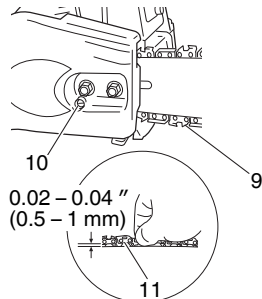

Fig. 5
7. Raise the bar end, and tighten the chain (9) by turning the tension adjustment bolt (10) clockwise. To check proper tension, lightly lift up the center of chain and there should be about 0.02 – 0.04 " (0.5 – 1.0 mm) clearance between bar and edge of drive link (11). (Fig. 5, 6)